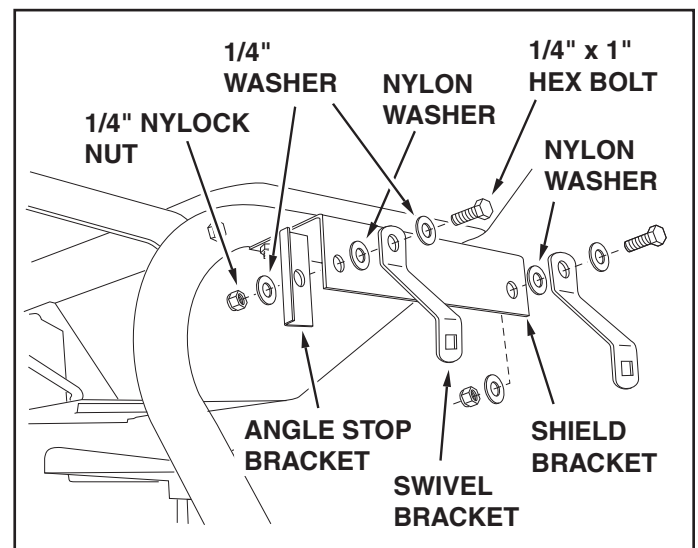

FIGURE 12
22. Attach an angle stop bracket and a swivel bracket to the rear hole in the R.H. shield bracket using a 1/4" x 1" hex bolt, two 1/4" washers, a nylon washer and a 1/4" Nylock nut. Place the angle stop bracket on the inside and the swivel bracket on the outside. **Tighten** the locknut so that the swivel bracket can pivot freely. See figure 12. Repeat step on L.H. shield bracket.
23. Attach a swivel bracket to the front hole in the R.H. shield bracket using a 1/4" x 1" hex bolt, two 1/4" washers, a nylon washer and a 1/4" Nylock nut. **Tighten** the nut so that the swivel bracket can pivot freely. See figure 12. Repeat step on L.H. shield bracket.